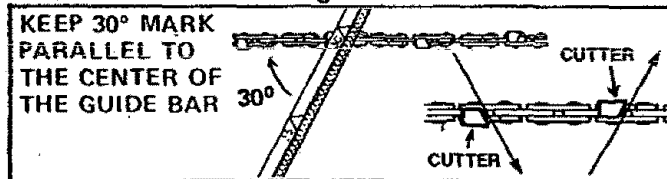

Figure 40
- b.) Hold the file holder level with the 30° guide mark parallel to the center of the chain. Figure 40.
- c.) File from inside toward outside of cutter, straight across, on forward stroke only. Use 2 or 3 strokes per cutting edge. Figure 40.